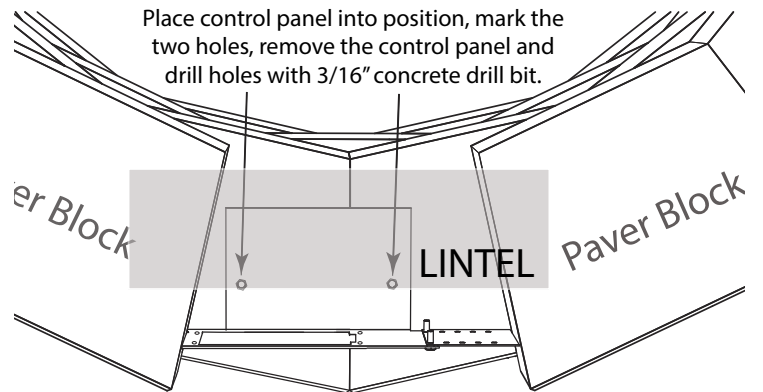

Fig. 4 Securing the control panel into the paver block. Lintel is shown in the gray shading.
STEP 3: After you have determined the location and measured the width to install the Paver Kit control panel mark the inside of the control panel as shown in Fig. 4.
Use the lintel to support the paver above control panel. The lintel simply lays on top of the paver as shown in Fig. 4.